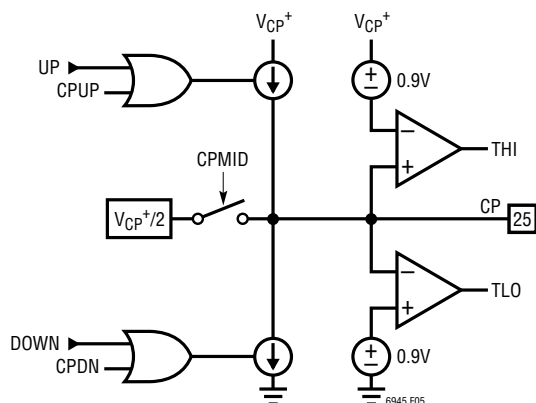

Figure 5. Simplified Charge Pump Schematic
The charge pump, controlled by the PFD, forces sink (DOWN) or source (UP) current pulses onto the CP pin, which should be connected to an appropriate loop filter. See Figure 5 for a simplified schematic of the charge pump.
The CPCHI and CPCLO bits found in register h0A enable the high and low voltage clamps, respectively. When CPCHI is enabled and the CP pin voltage exceeds approximately $V_{CP}^{+} - 0.9V$, the THI status flag is set, and the charge pump sourcing current is disabled. Alternately, when CPCLO is enabled and the CP pin voltage is less than approximately 0.9V, the TLO status flag is set, and the charge pump sinking current is disabled. See Figure 5 for a simplified schematic.